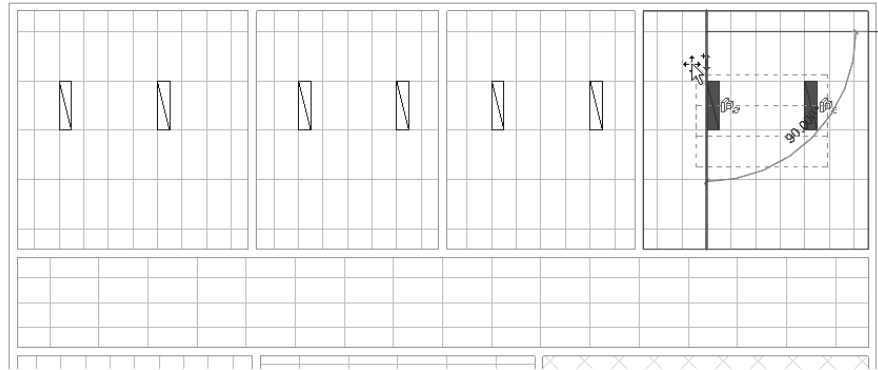

Figure 2–67
2. Copy the lighting fixtures to the other rooms on the same side of the hall, similar to the example shown in Figure 2–67.